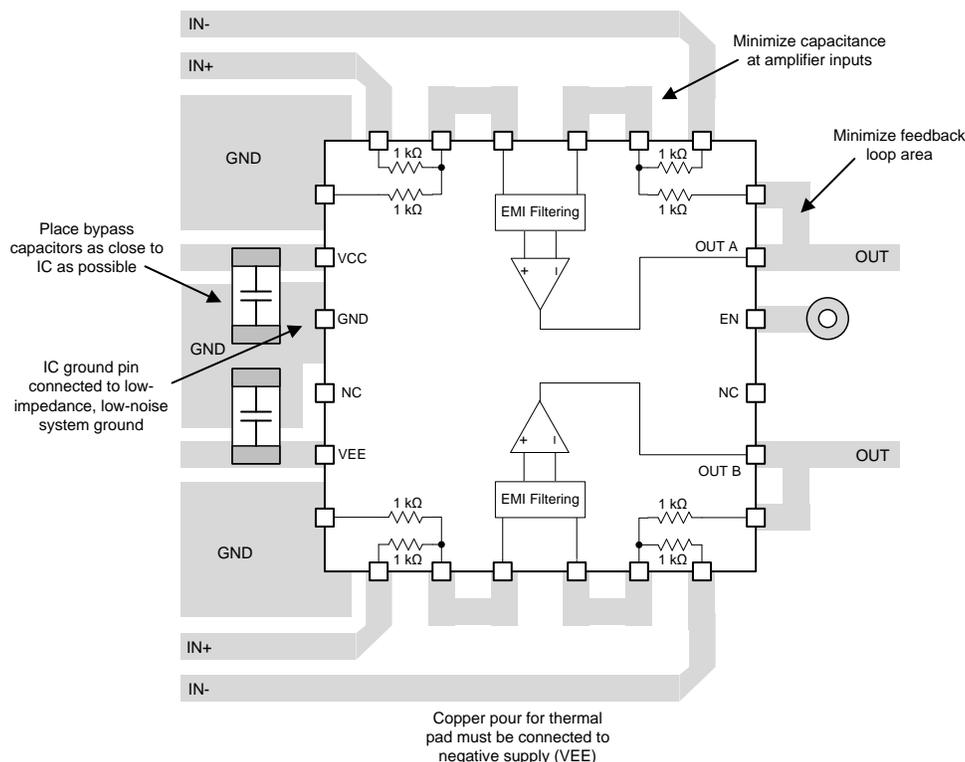

图 61. Board Layout for a Difference Amplifier Configuration
- Place the external components as close to the device as possible. As shown in 图 61, keep feedback resistors close to the inverting input to minimize parasitic capacitance and the feedback loop area.